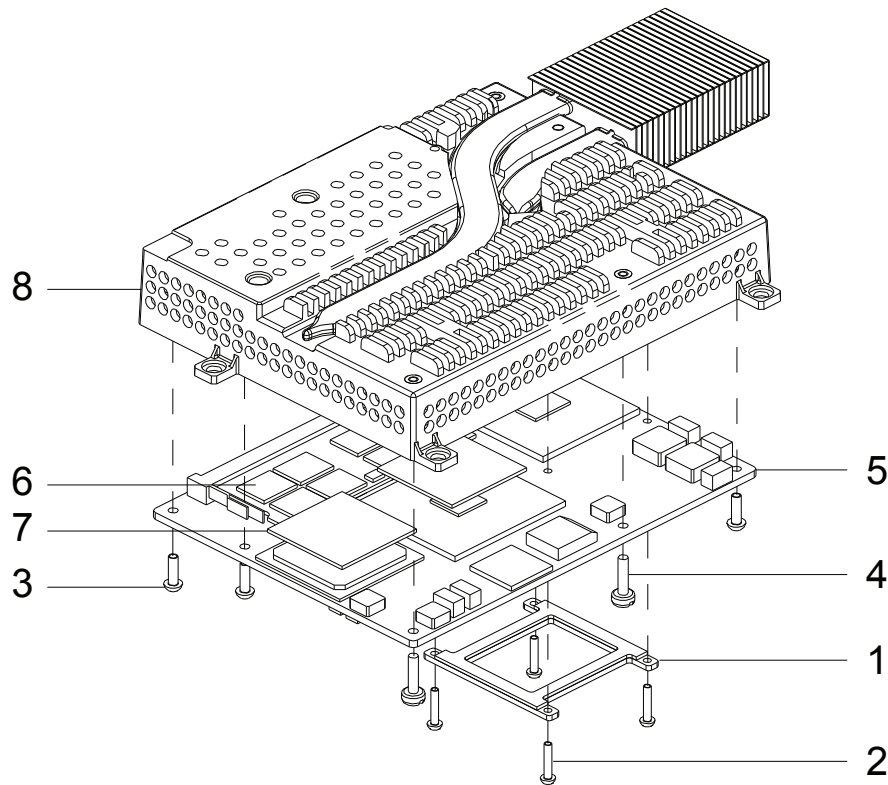

Figure 4-25 Removing CPU Board
3) As shown in Figure 4-25, remove the four M2×10 Philips panhead screws on the CPU board bracket.